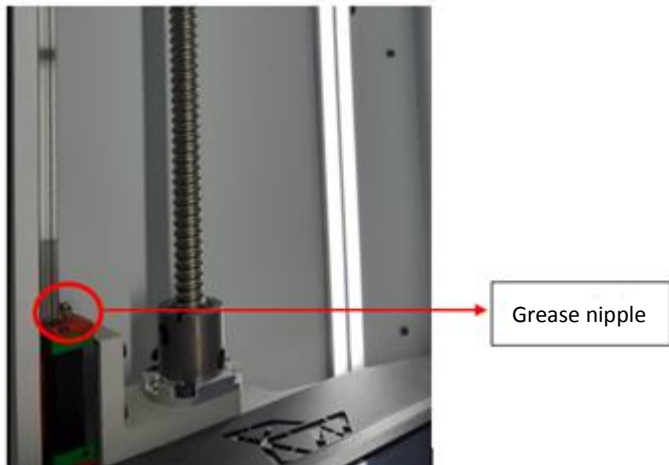

Fig. 27 Lubricating the linear guides on the left side
- Push grease into the grease nipple of the left linear carriage (Fig. 27). It is located at the top of the liner carriage. Push grease out by pressing the lubricator nozzle firmly against the grease nipple and pressing smoothly the lubricator lever once.